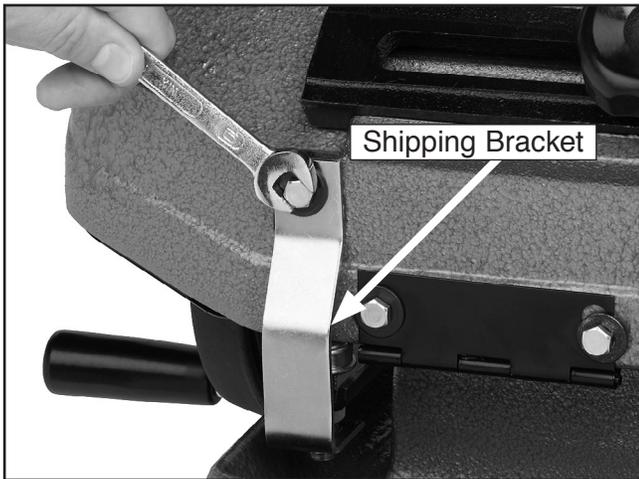

Figure 6. Removing shipping bracket.
1. Use a 10mm wrench to remove the shipping bracket shown in **Figure 6**.